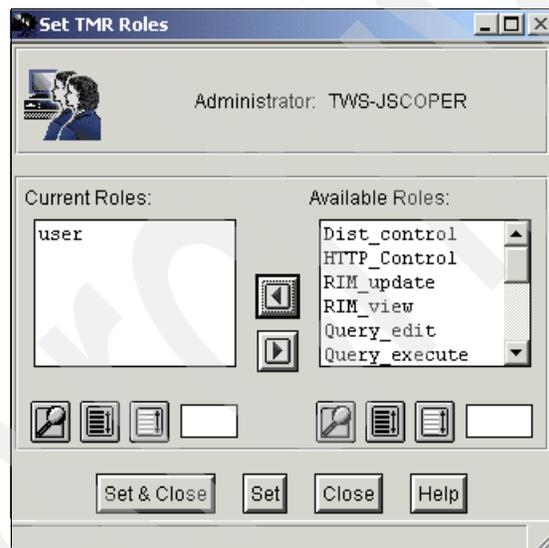

Figure 16-8 Set TMR roles
6. Click the **Set TMR Roles** icon and add the desired role or roles (Figure 16-8).